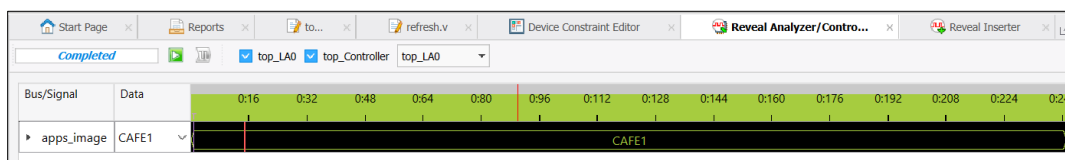

Figure 7.3. apps\_image Showing CAFE1
- c. Open the waveform tab and apps\_image displays CAFE1 indicating that Primary Image is running on the device (Figure 7.3).
5. Run Reveal Analyzer by clicking the  button and return to the waveform tab. The apps\_image still displays CAFE1 and LED D3 is blinking indicates that Alternate Pattern 1 is running on the device (Figure 7.3).